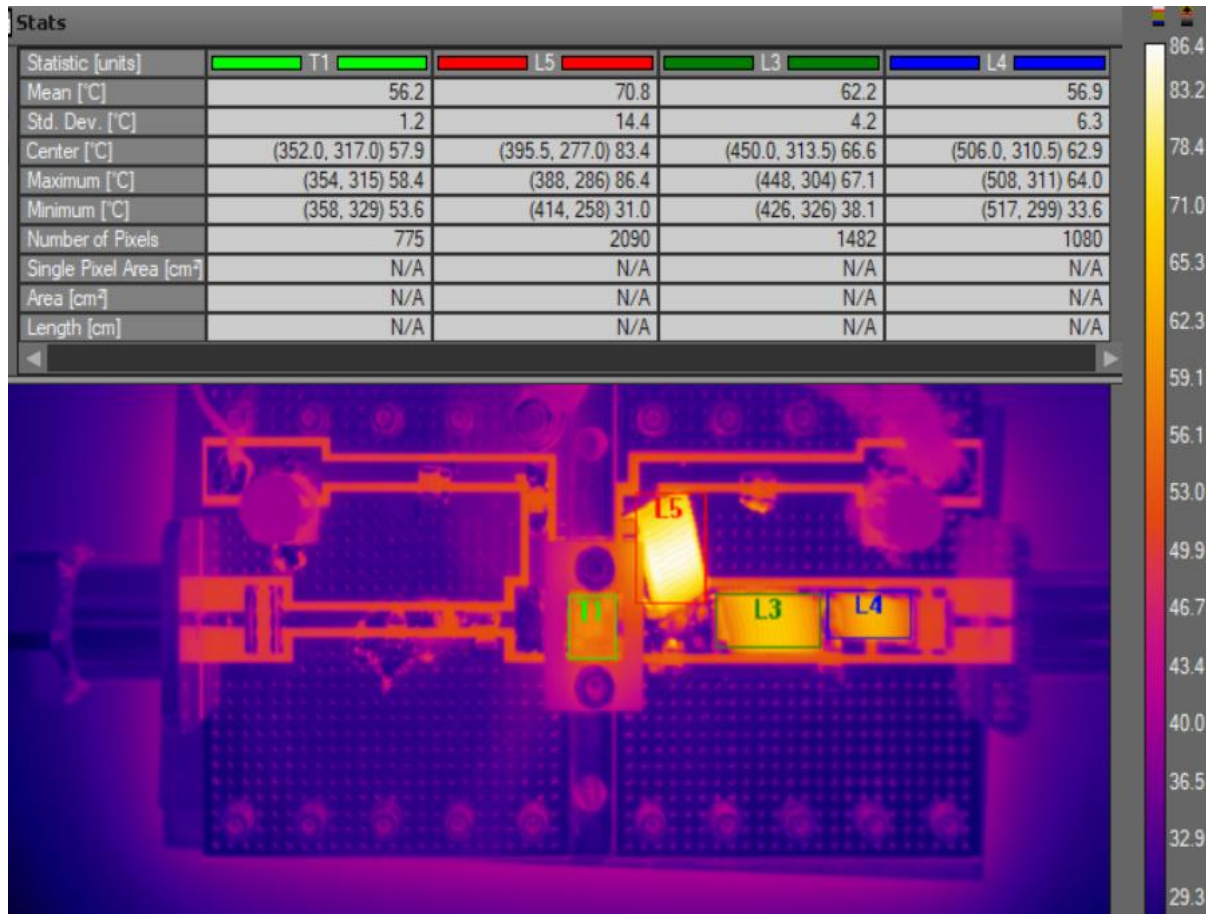

Figure 11 IR image of the demo after reaching thermal equilibrium and operating at P3dB, VDD = 65V
- Figure 11 IR image of the demo after reaching thermal equilibrium and operating at P3dB, VDD = 65V 9
The S21 S-parameters in Figure 11 indicate a peak at 13.56 MHz, which aligns with the ISM band specifications for target applications. This peak is an indicator of maximum power transfer, high efficiency, and low harmonic distortion in real-world applications.